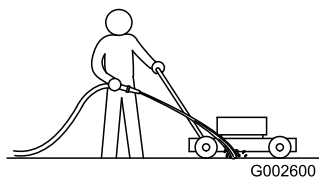

Figure 20
3. With the engine running and the blade engaged, spray a stream of water in front of the **right**, rear wheel (Figure 20).